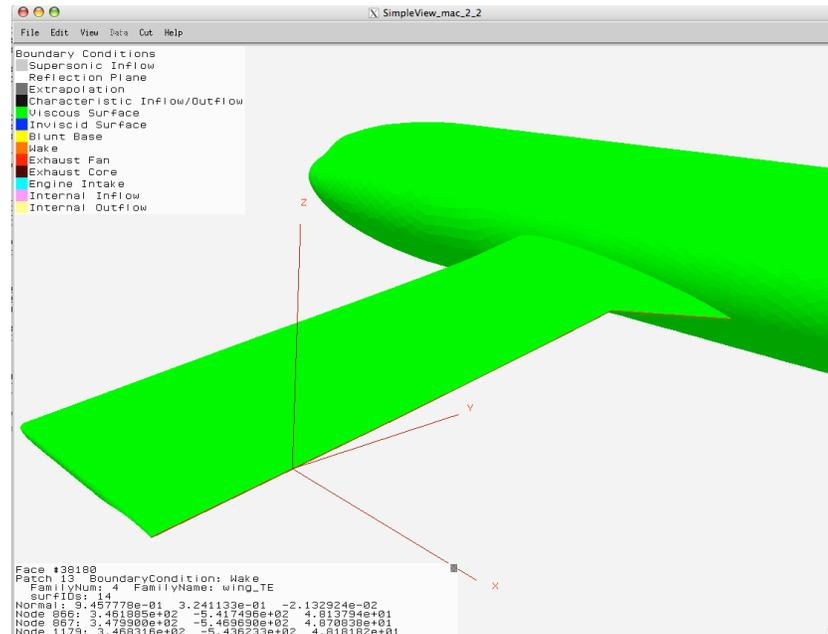

Figure 2.3.5 Displaying Boundary Conditions
then display the configuration with each surface patch shaded according to the boundary condition that has been associated with it, as shown in Figure 2.3.5.
1. Make sure that you are viewing the surface boundary conditions (i.e., that the “Boundary Conditions” option is checked in the View panel), as shown in Figure 2.3.5.